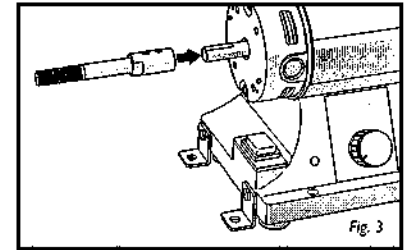

Fig. 3
- The machine comes preassembled with the leather honing wheel and wooden slicker attachments. Make sure the set screws on the threaded spindle are tightened to the motor shaft. Fig. 3